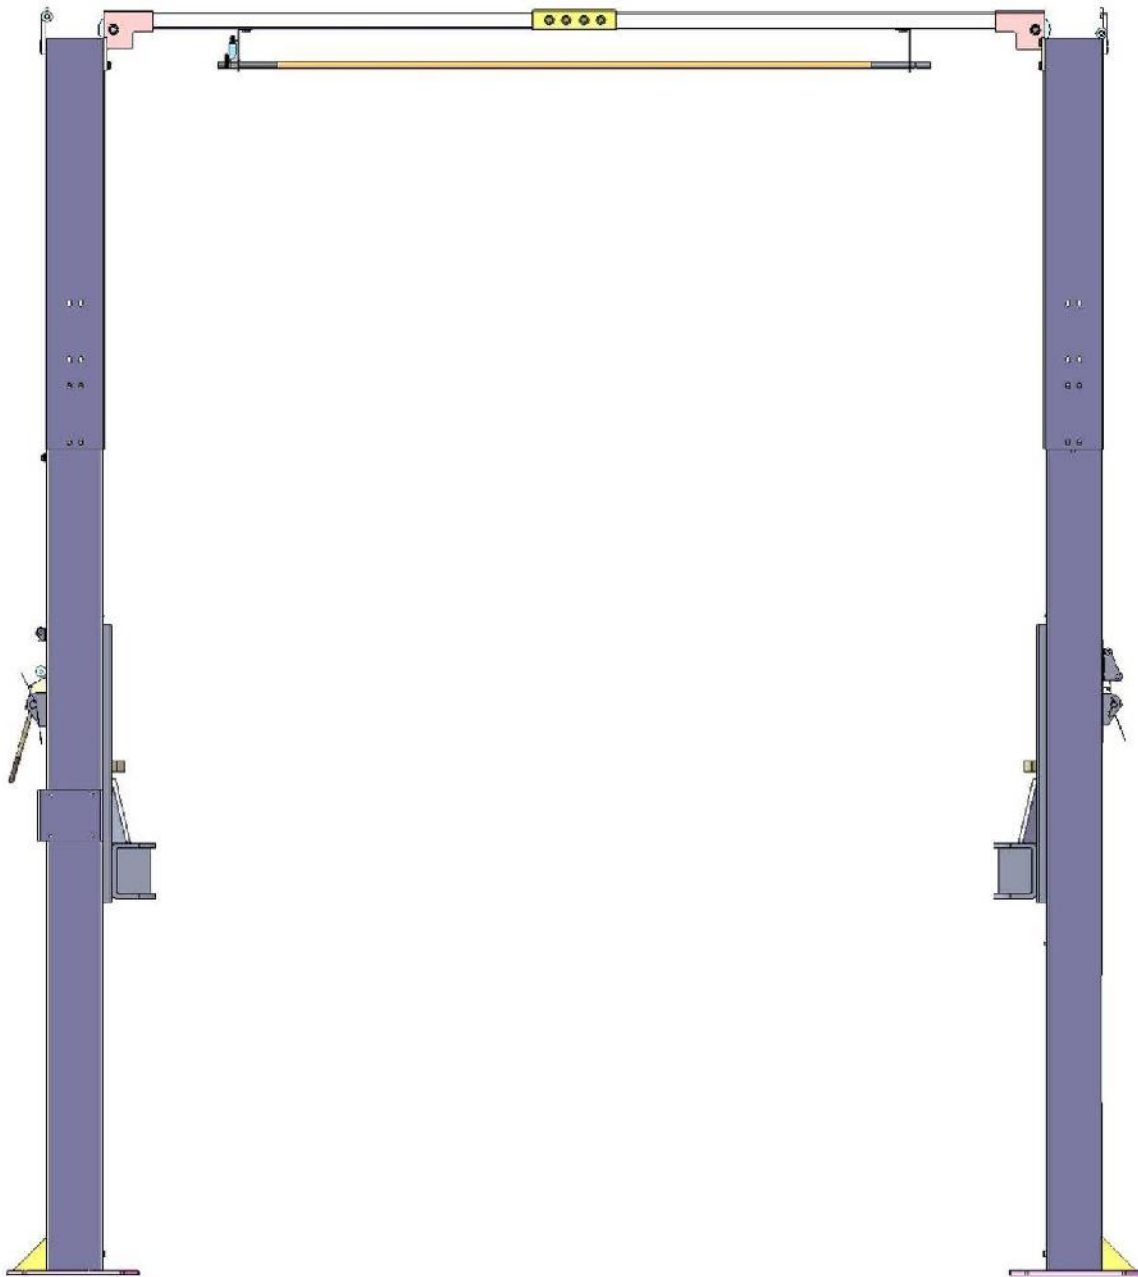

Fig. 21
J. Lift the carriages up to about three feet high (use sufficient lifting means) and set them in the locked position at the same level (See Fig. 21).